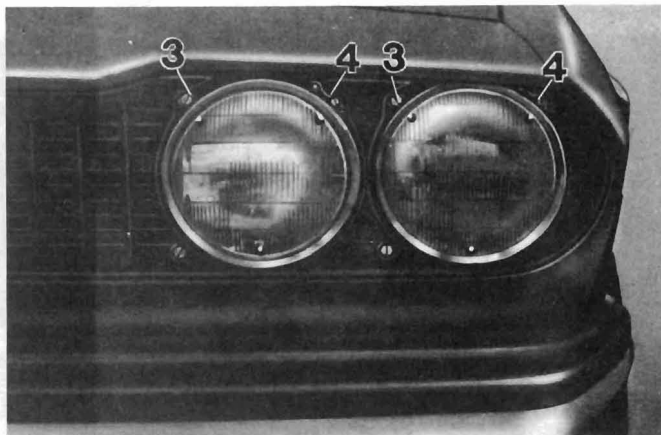

Fig. 9.5 Sealed beam headlamps (Sec 15)
- 1 On models equipped with this type of headlamp, unscrew the securing screw (3) and free the spring clip (4) from the beam adjuster screw seal (Fig. 9.5). Do not disturb the setting of the adjuster screw (photo).